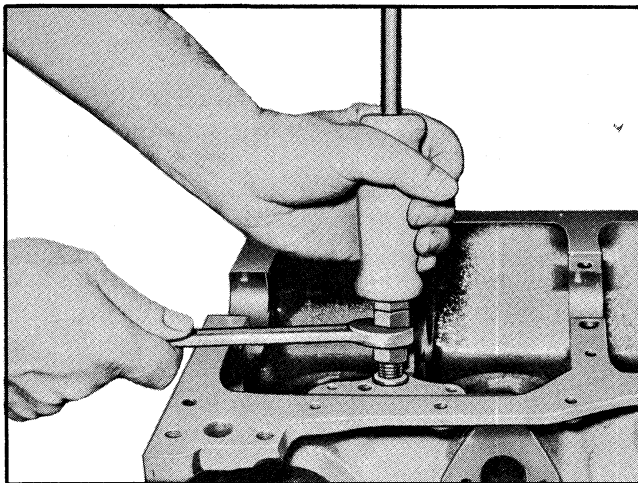

Fig. 6-77 Removing Distributor Lower Bushing
1. Install tool J-9534 into bushing and using a slide hammer, remove the bushing (Fig. 6-77).